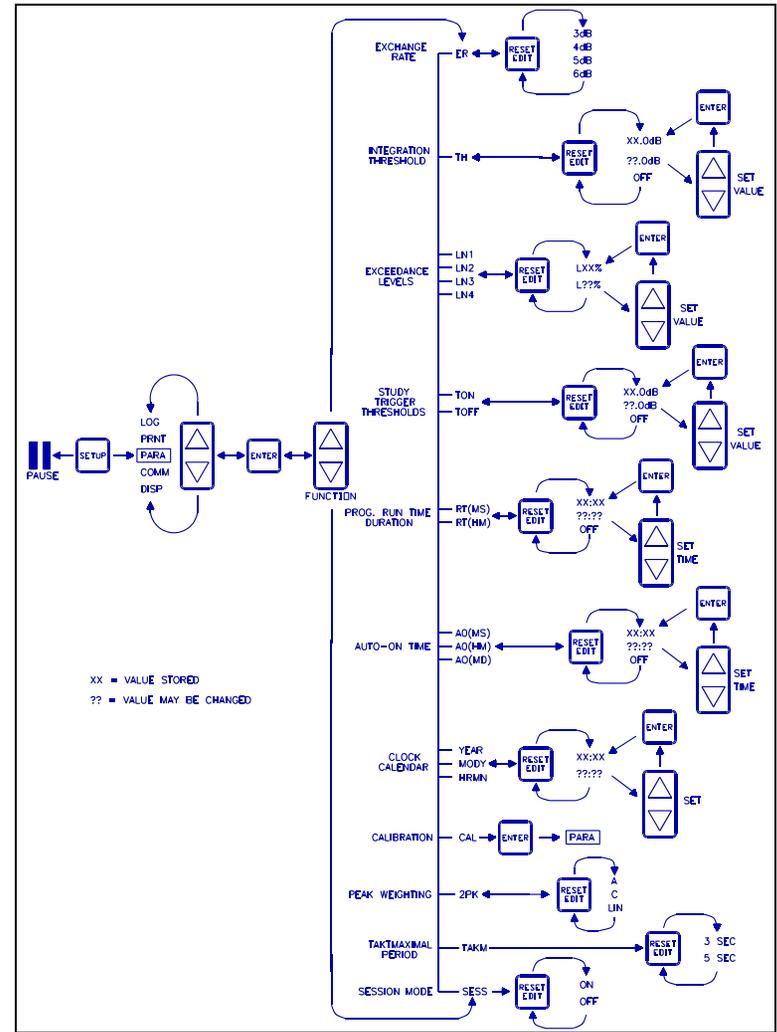

Figure 11. Parameter Setup Menu
**PARA Setup Menu** (Measurement parameters) Refer to Figure 11